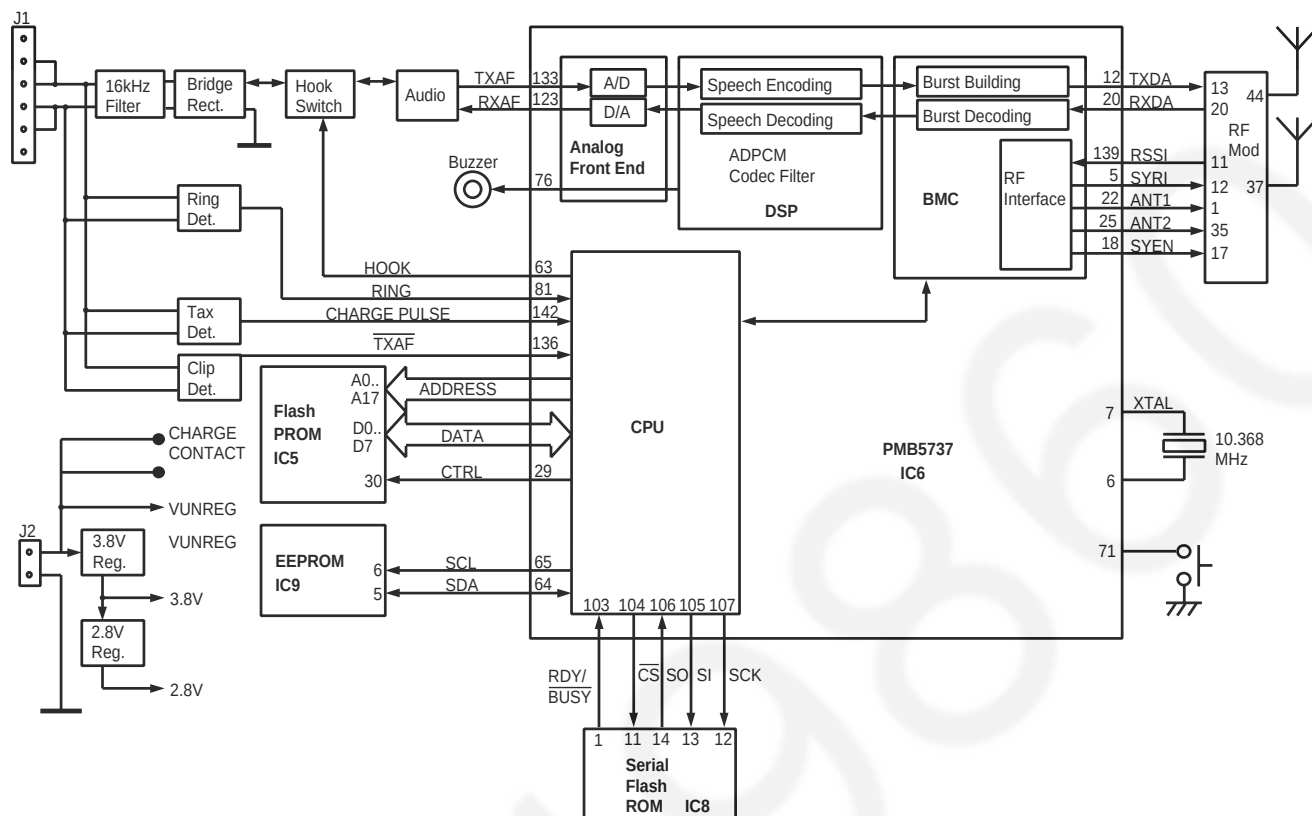

Fig. 17
6.1.1. INTRODUCTION (SEE Fig. 17)
6.2. THE LINE INTERFACE SECTION (SEE BLOCK DIAGRAM Fig. 17)